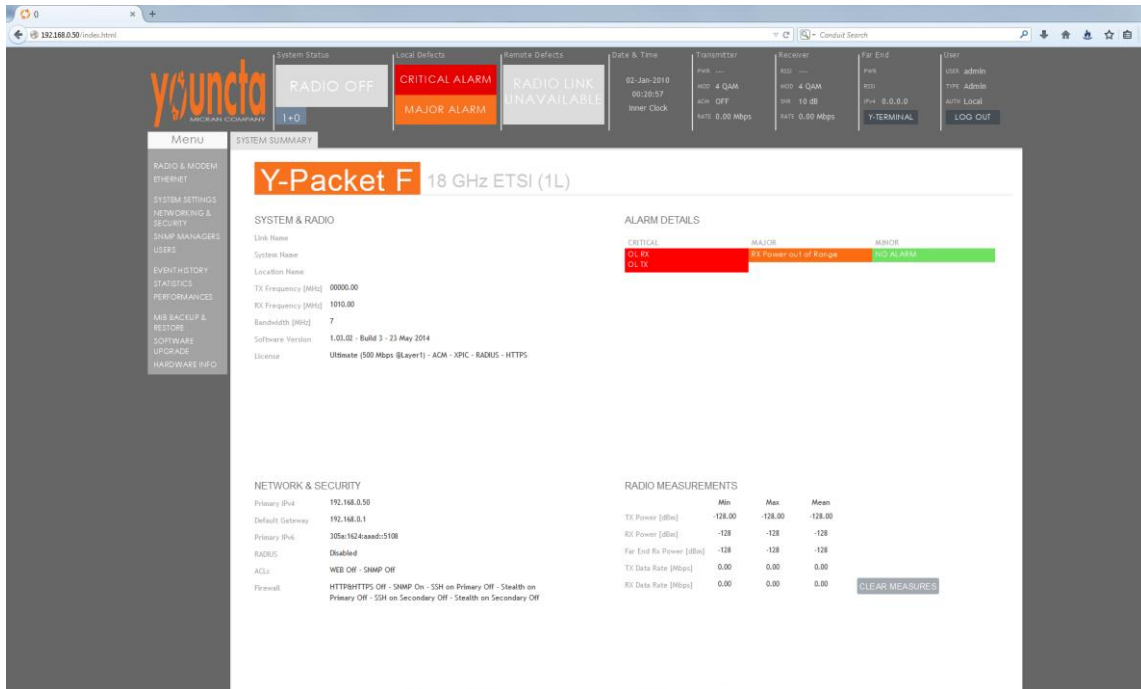

Figure 5.2-3 : Y-Terminal system summary window (main window)
The configuration starts from the main window here reported for convenience (Figure 5.2-3) and using the pop-up windows described in the Feature and Configuration Guide.
Antenna alignment procedure implies received power level monitoring that can be performed either using Y-Terminal Main window of Figure 5.2-3 (RX pwr) or measuring with a standard voltmeter the voltage present on the RSSI interface of ODU. The Rx power measured must be in according with the value indicated in the link calculation report.
As a final check during the line-up it is recommended to verify that no radio interference is present, impairing the operation in one of the receivers. For this purpose the Tx of the other station must be squelched and a Rx power measurement carried out with the help of Y-Terminal: Using RSSI or Y-Terminal Main window of Figure 5.2-3, the operator has to monitor for a few minutes the RX signal field (no signal/ -128 dBm display should be observed - no interference condition).
- In the Y-Terminal Main window of Figure 5.2-3, the same LED status as above has to be reported by the status indicators. LO LED is green.
- Using Y-Terminal verify that ATPC is disabled (RTPC operating mode) and check in the Y-Terminal Main window of Figure 5.2-3 that the value reported in the TX signal field corresponds to the value set in the RF set up.
- Check that transmitted power level monitored in the TX signal field of the Y-Terminal Main window of Figure 5.2-3 corresponds to the Tx Power Level loaded in the previous step
- In these conditions verify the received power level monitored in the RX signal field of the Y-Terminal Main window of Figure 5.2-3 and verify that the Rx level is consistent with the value expected from the hop calculations.
- Set the range and Target ATPC values consistent with the planned operation conditions and verify that the actual transmitted power level monitored in the TX signal field of the Y-Terminal Main window of Figure 5.2-3 is in the range defined by ATPC Min Power Lev and ATPC Max Power Lev
- In these conditions verify the received power level monitored in the RX signal field of the Y-Terminal Main window of Figure 5.2-3 is around the expected operational value.